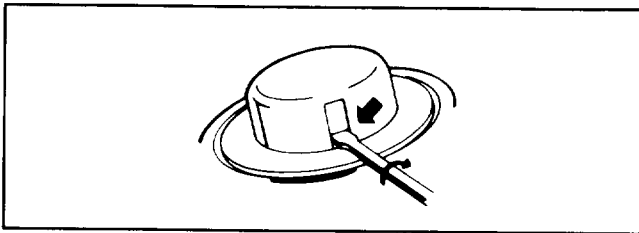

Figure 18
1. (Fig. 18) To remove empty spool, insert widest possible blade screwdriver snugly into one of two window slots on the spool hub. With screwdriver pressed firmly into window slot, twist screwdriver 1/4 turn. Spool will snap off.